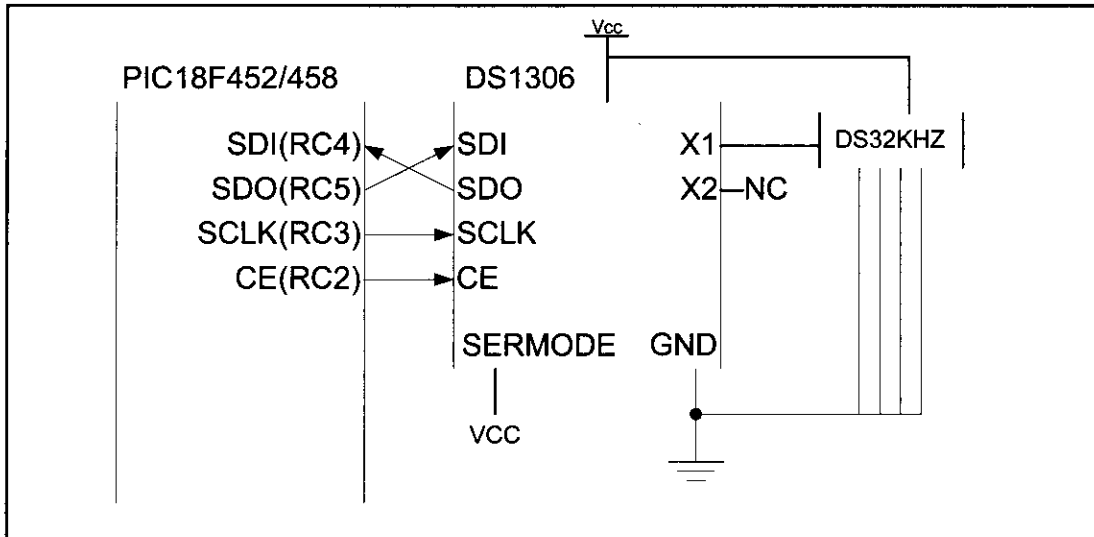

Figure 16-12. DS1306 Connection to PIC18
our SPI device, we must use the designated pins for the SPI signals. They are RC2 (CE), RC3 (SCLK), RC4 (SDI), and RC5 (SDO), as shown in Figure 16-12.